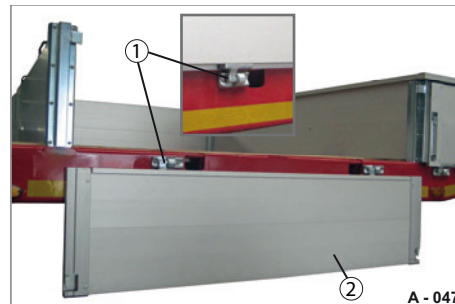

Fig. 48 Platform gate folded down
- ▶ Fold up the platform gate (Fig. 48/2) with both hands in a controlled manner - do not let it fall.